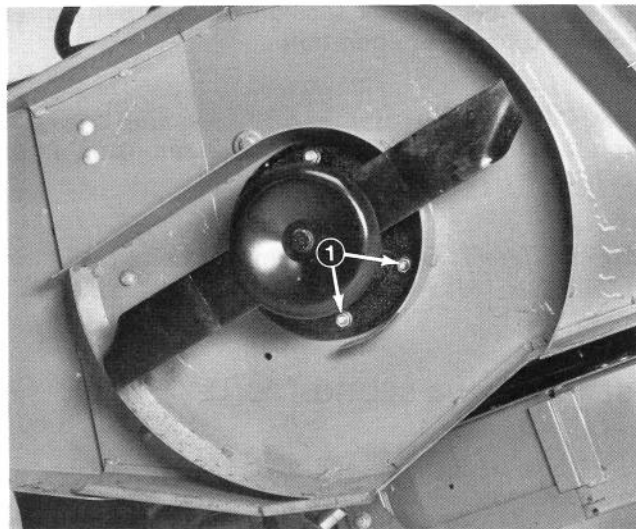
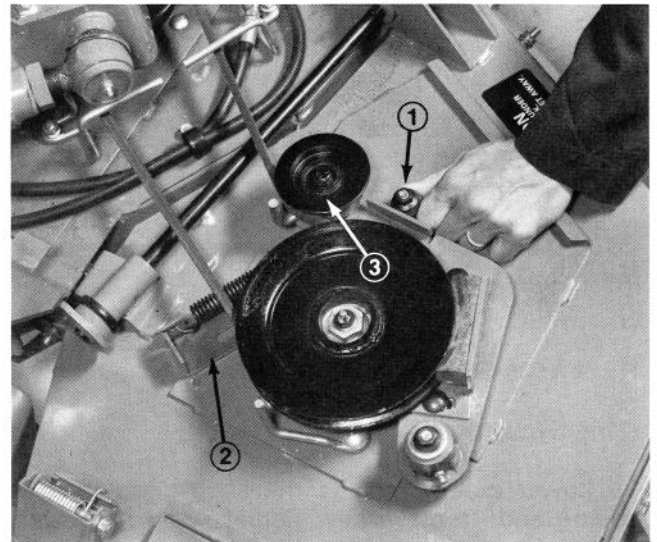

Figure 29
Figure 30
Loosen two capscrews (capscrew nuts are located under the deck) securing spring bracket (Fig 29). Slide the spring bracket (Fig. 30) so that the rubber bumper, at one end, just contacts the edge of the idler arm and tighten capscrew nuts, under deck, to secure the spring bracket. With the spring bracket in this position the belt is properly tensioned.
2. With the wing unit raised, loosen nuts on capscrews holding the spring bracket from under the deck (Fig 29).
3. With spring tension relaxed, lower wings, loosen or remove the idler pulley bolt (Fig. 30) to allow the belt to pass between the belt guide and the idler pulley.